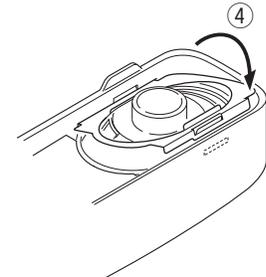

Fig. 7-3
1. Insert two tabs of the holder (J19-5485-02) into the hollows in the top of the panel. ( ① )
2. Push the two tabs of the holder in on the opposite side of those in step 1 above and fit them into the hollow in the bottom of the panel. ( ② )
3. Install the speaker holder onto the panel. ( ③ )
6. Insert the hardware fixture (J21-8481-03) into the hollow of the panel as shown in Figure 7-3, then push two parts of the hardware fixture and fit it into the hollow of the top of the panel. (Fig. 7-3 ④ )